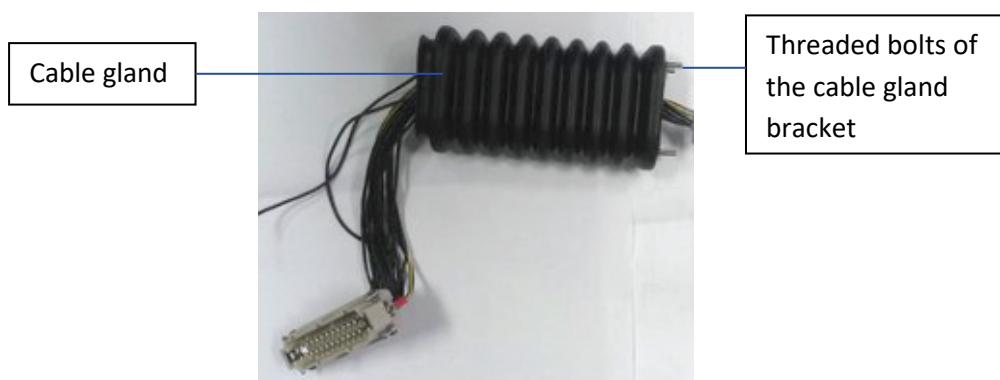
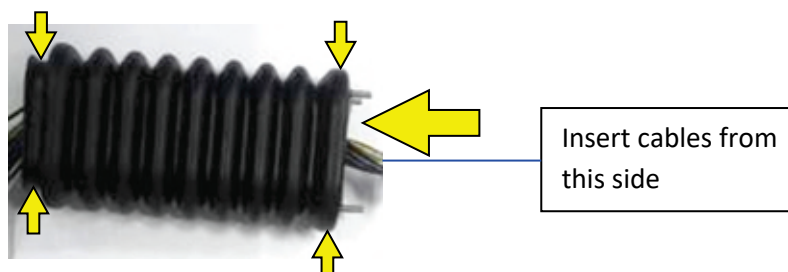

Fig. 52: Detached cable gland with bracket
Fig. 55: Insert cables from the thicker end into the cable gland
3. Pull the cable gland and the cable gland bracket out of the cabinet while the cables are still inserted (see Fig. 52).
- ☐ Thread the cables through the new cable gland. Start with the Harting connector. Only then thread the remaining cables through the cable gland. The cables must be inserted from the “thicker end” (the side ending with a ridge) into the cable gland so that they come out at the “thinner end” (neck between two ridges; see Fig. 55, Fig. 52).